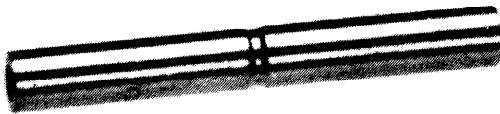

Figure 6
4.04 Insert tip conductors from each wire end into opposite ends of a Nicopress Sleeve No. 1-025A (see Figure 6) and while making sure that both wires are fully seated in the sleeve (check the insulation distance on the conductor from the sleeve), use the "A" (smallest) groove on a Nicopress No. 17-BA tool to crimp the sleeve (see Figure 7).